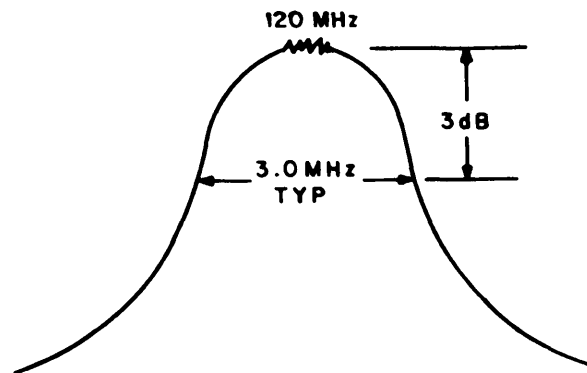

Figure 4-6. Typical, 80-250 MHz Tuner, RF Interstage Bandpass Response
- (4) Rotate the Inductuner Shaft $2 \frac{3}{4}$ turns CW from its fully CCW position.
- (5) Set the sweep generator to 120 MHz; sweepwidth to 10 MHz and the output level to -15 dBm.
- (6) Adjust C10 and C13 for a maximum amplitude single peak response centered about the LO/IF marker as shown in Figure 4-6.